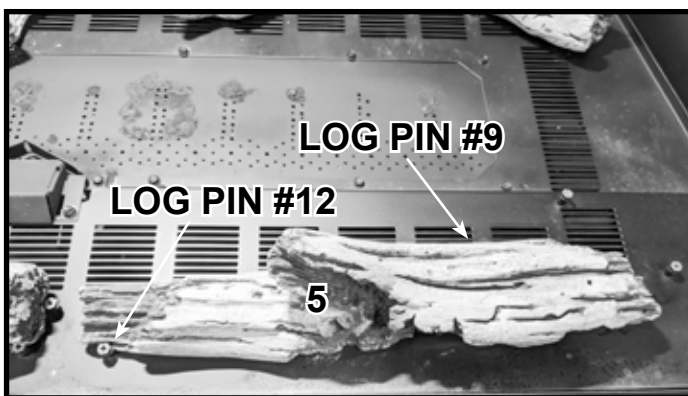

Figure 10 Place Log #5
**Log #5:** Place the left end of Log #5 with the pin as shown in Figure 10. Rotate the right end of Log #5 counter clockwise until it contacts Log Pin #9.